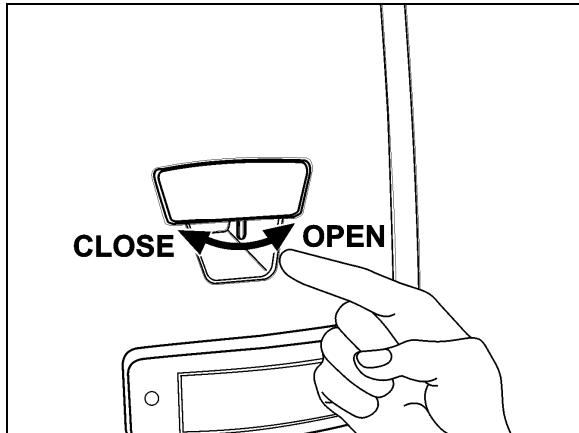

FIGURE 13: DOOR OPERATING SWITCH 18316
1. Remove 6 nuts (3 on each side) holding bumper assembly to vehicle and remove bumper (Fig. 13).